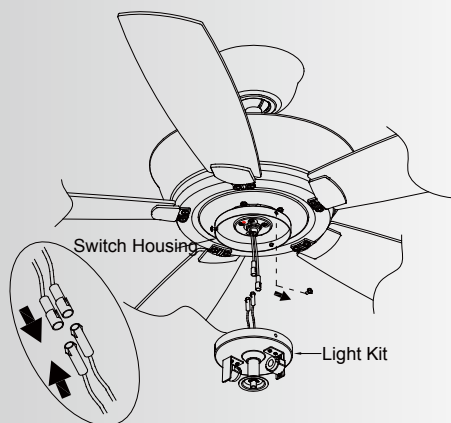

Fig. 22
Step1. Remove 1 of the 3 screws from the switch housing and loosen the other 2 screws (do not remove). (Fig. 22)
Step 2. Hold the light kit close to the switch housing and connect the WHITE wires from the light kit and fan by pushing the connectors together. Follow the same procedure with the BLACK wires. (Fig. 22)